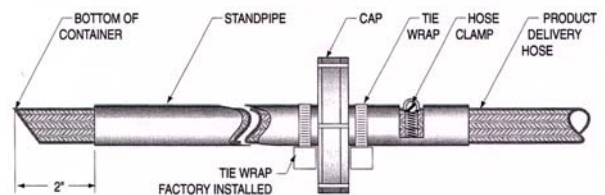

Figure 1
2. Slide the cap over the notched end of the pipe down to the existing tie wrap and place another tie wrap above the cap. See Figure 1.
3. Cut the long end of the pipe so that it will clear the bottom of the container by about 2 inches when the cap is screwed onto the container bund. See Figure 1.
5. Cut the hose to a length that reaches from the pump to the container bottom. The end that will be in the container should be cut at a 45 degree angle. See Figure 1.
6. Open the hose clamp so it can easily slide over the hose, and place the clamp in the pipe notch. Insert the hose into the standpipe and through the clamp. See Figure 1.